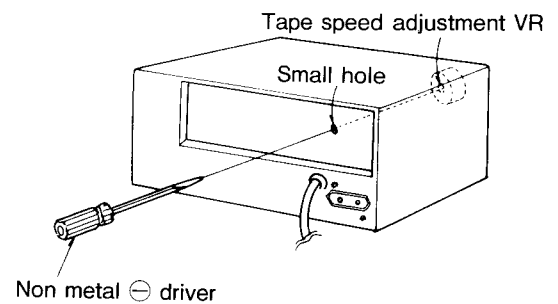

Fig. 1
Tape speed can be adjusted through the small hole on the back-side of main case by the  $\ominus$  screw driver (non metal type) as shown in fig. 1.
<p>C Tape speed</p> <p>Condition:</p> <ul style="list-style-type: none"> <li>• Playback mode</li> <li>• Normal tape mode</li> </ul> <p>Equipment:</p> <ul style="list-style-type: none"> <li>• Digital electronic counter or frequency counter</li> <li>• Test tape ... QZZCWAT</li> </ul>	<p>Tape speed accuracy</p> <ol style="list-style-type: none"> <li>1 Test equipment connection is shown in fig. 9.</li> <li>2 Playback test tape (QZZCWAT 3,000Hz), and supply playback signal to frequency counter.</li> <li>3 Take measurement at middle section of tape.</li> <li>4 Measure this frequency.</li> <li>5 On the basis of 3,000Hz, determine value by following formula:</li> </ol> $\text{Tape speed accuracy} = \frac{f - 3,000}{3,000} \times 100 (\%) \quad \text{where, } f = \text{measured value}$ <div style="border: 1px solid black; padding: 5px; width: fit-content; margin: 10px auto;"> Standard value: <math>\pm 1.5\%</math> </div> <p>Adjustment method</p> <ol style="list-style-type: none"> <li>1 Playback the test tape (middle)</li> <li>2 Adjust so that frequency becomes 3,000Hz</li> <li>3 Tape speed adjustment VR shown in fig. 1.</li> </ol>  <p style="text-align: center;">Fig. 9</p>
<div data-bbox="555 237 967 501"> <ol style="list-style-type: none"> <li>1) Increase bias current by turning VR201 (L-CH) and VR202 (R-CH). (See fig. 1 on page 4.)</li> <li>2) Repeat steps 6 and 7 to confirm. (Proceed to steps 8, 9 and 10 if the curve is now within the charted specifications in fig. 15.)</li> <li>3) If the curve still exceeds the specifications (fig. 15), increase bias current further and repeat steps 6 and 7.</li> </ol> </div> <div data-bbox="1027 237 1474 479"> <ol style="list-style-type: none"> <li>1) Reduce bias current by turning VR201 (L-CH) and VR202 (R-CH).</li> <li>2) Repeat steps 6 and 7 to confirm. (Proceed to steps 8, 9 and 10 if the curve is now within the charted specifications in fig. 15.)</li> <li>3) If the curve still falls below the charted specifications (fig. 15), reduce bias current further and repeat steps 6 and 7.</li> </ol> </div> <div data-bbox="526 524 893 770"> <ol style="list-style-type: none"> <li>8. Switch the tape selector to CrO2, change test tape to QZZCRX, and record 50Hz, 100Hz, 200Hz, 500Hz, 1kHz, 4kHz, 8kHz, 10kHz, 12kHz and 14kHz signals. Then, playback the signals and check if the curve is within the limits shown in the overall frequency response chart for CrO2 tapes (fig. 20).</li> </ol> </div> <div data-bbox="932 537 1461 801"> </div> <div data-bbox="1149 801 1232 833">Fig. 20</div> <div data-bbox="526 792 1461 927"> <ol style="list-style-type: none"> <li>9. Switch the tape selector to Metal, change test tape to QZZCRZ, and record 50Hz, 100Hz, 200Hz, 500Hz, 1kHz, 4kHz, 8kHz, 10kHz and 12.5kHz signals. Then, playback the signals and check if the curve is within the limits shown in the overall frequency response chart for metal tapes (fig. 20).</li> </ol> </div> <div data-bbox="517 949 1417 999"> <ol style="list-style-type: none"> <li>10. Confirm that bias currents are approximately as follows when the tape selector is set at different positions.</li> </ol> </div> <div data-bbox="539 1008 1190 1034"> <ul style="list-style-type: none"> <li>• Read voltage on VTVM and calculate bias current by following formula:</li> </ul> </div> <div data-bbox="596 1034 995 1088"> <math display="block">\text{Bias current (A)} = \frac{\text{Value read on VTVM (V)}}{10 (\Omega)}</math> </div> <div data-bbox="555 1111 1382 1196"> <p>around 400μA (Normal position)  around 600μA (CrO2 position)  around 1000μA (Metal position) } : measured at TP1 (L-CH) and TP2 (R-CH)</p> </div>